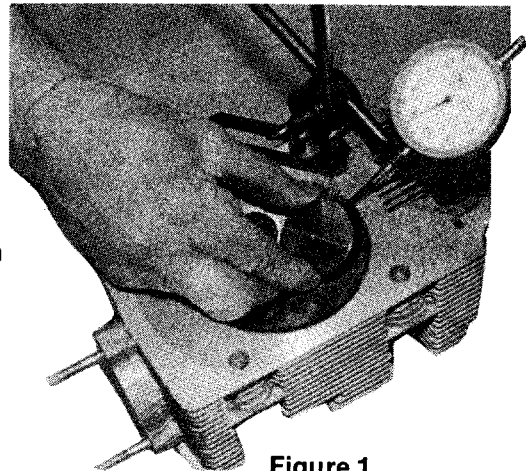

Figure 1
1. Attach special tool VW387 to the cylinder head as shown in Figure 1.